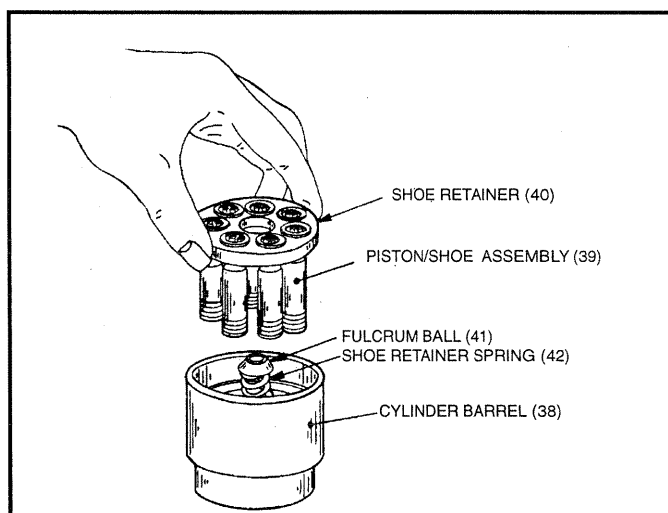

Figure 5 Rotating Group Disassembly
Remove the rotating group by slowly turning the driveshaft (21) while pulling the cylinder barrel (38) from the housing. Mark (number) each pump piston shoe assembly (39) and its respective bore in cylinder barrel and shoe retainer plate (40). See Figure 5. Lift out shoe retainer plate (40) with pistons and remove fulcrum ball (41) and shoe retainer plate spring (42).
See Figure 5. Place the cylinder barrel (38), wear surface down, on a clean cloth. Place the shoe retainer spring (42) in the center of the barrel with the fulcrum ball (41) on top of it. Insert the piston and shoe assemblies (numbered on disassembly) into their corresponding (numbered) holes of the shoe retainer plate (40). As a unit, fit the pistons into their corresponding (numbered) bores in the cylinder barrel. **DO NOT FORCE.** If aligned properly, the pistons will fit smoothly.
**WARNING-The assembled rotating groups for some sizes of pumps may be heavy, assistance from others and proper lifting techniques is strongly recommended to prevent personal injury.** The rotating group can now be carefully installed over the tail of the driveshaft and into the pump housing (1). While installing the rotating group, support the weight of the cylinder barrel, as cylinder spline is passed over the tail shaft, to avoid scratching or damage. Push cylinder barrel forward on the driveshaft, until the cylinder spline reaches the driveshaft spline; rotate the cylinder barrel slightly to engage the shaft splines. Continue to slide the cylinder barrel forward until it encounters the hydrodynamic cylinder bearing (35). Lifting the tail end of the driveshaft slightly helps cylinder barrel and hydrodynamic cylinder bearing engagement. Continue pushing cylinder barrel forward until the piston and shoe assemblies (39) contact the swashblock (29). On units with thru type driveshafts, place the rear shaft-coupling etc. on the rear of the driveshaft. If removed, install roll pins (12) in pump housing (1). Install o'rings (13 & 14) in pump housing.